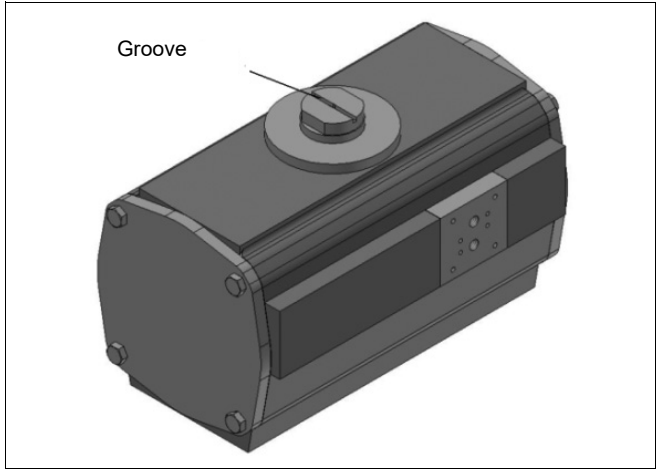

Fig. 15 The groove on the actuating shaft corresponds to the position of the disc
- Ensure that the notch on the actuating shaft corresponds to the position of the disc (see fig. 15).